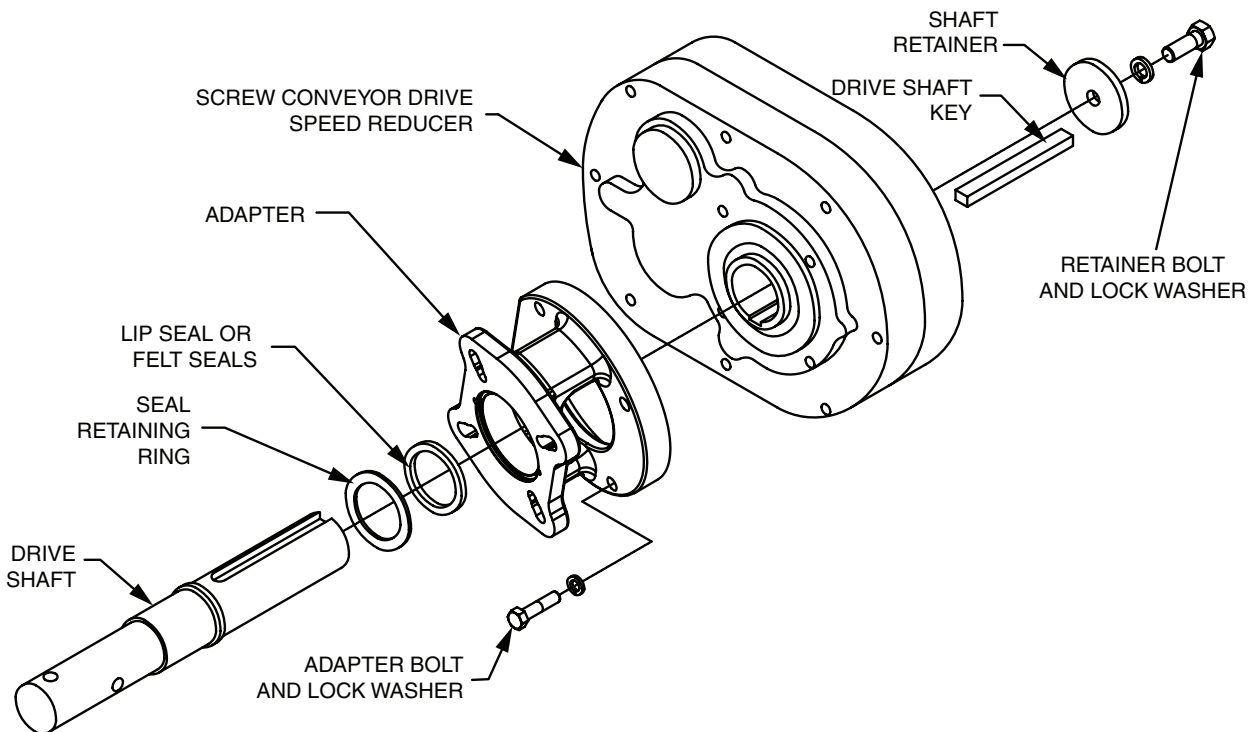

Figure 2- Optional Adjustable Packing Adapter
4. Install 2 screws in studs in the adapter. Use Loctite on threads. See Figure 2.